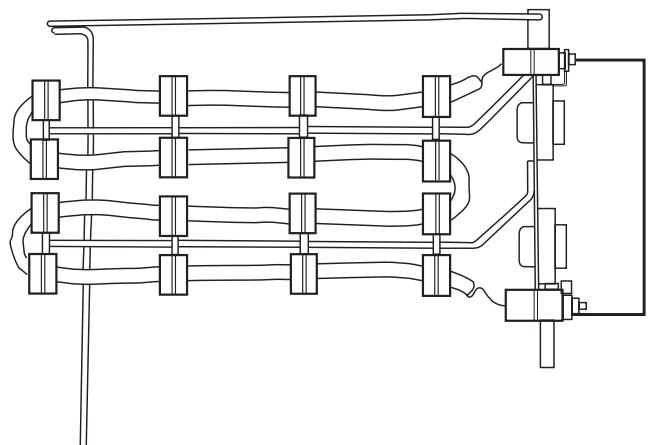

FIGURE 43 — HEATER REMOVED
7. Remove the heater assembly (Figure 43).